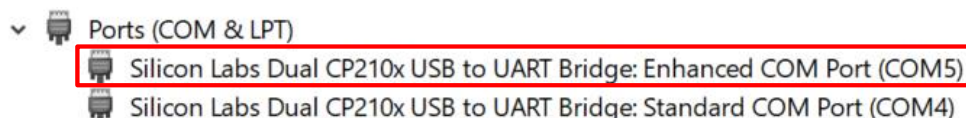

Figure 7: USB Ports
Step 5: Select the correct “COM Port” (shown in *Figure 7* above) and the “Baudrate”.